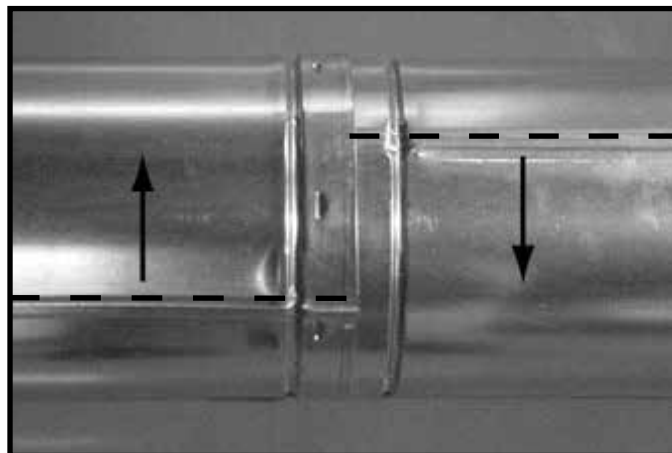
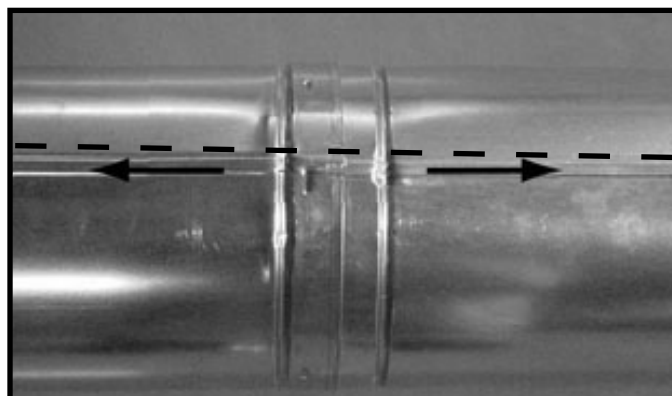

Figure 7.10 Rotate Seams for Disassembly
Figure 7.11 Align and Disassemble Vent Sections
- Rotate either section (see Figure 7.10) so the seams on both pipe sections are aligned as shown in Figure 7.11.